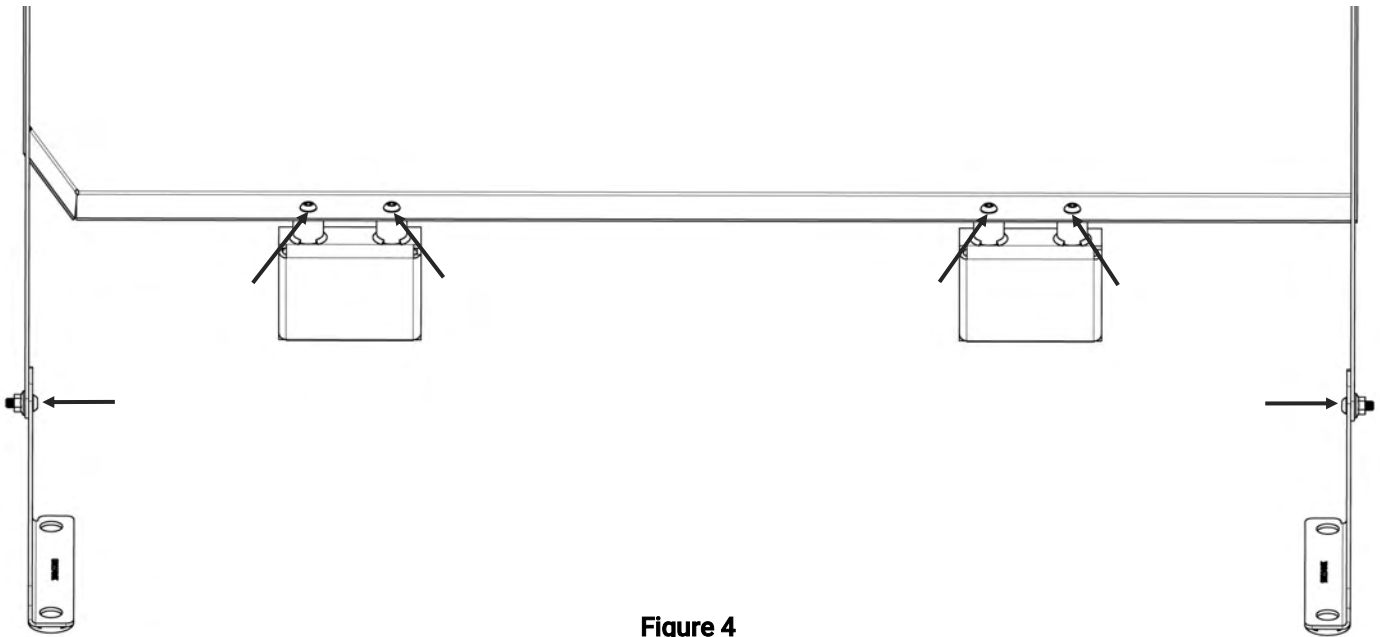

Figure 4
- E. Repeat step D. for the passenger side using another [3X611] screw and [3X166] whiz nut. Figure 4 on the following page shows all (6) bolt locations.